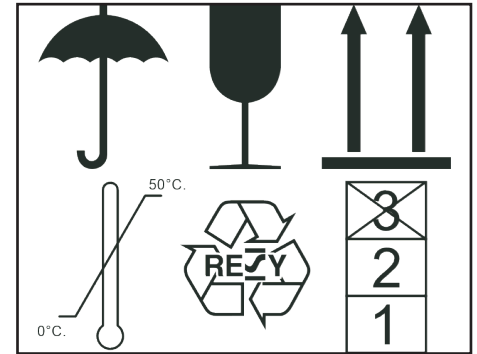

Figure 1.
*This machine may only be transported in the original packaging. The packaging contains the necessary instructions for storing and transporting this machine (see Figure 1).*